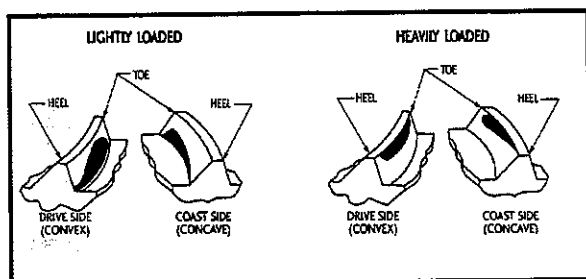

Figure 30—Correct Gear Patterns
2. Apply drag load. (See Figure 30—Correct Gear Patterns.)